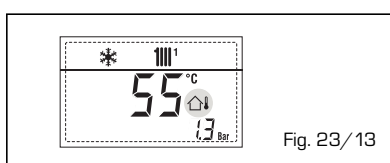

Fig. 23/13
**- INTERVENTO TERMOSTATO SICUREZZA PRIMA ZONA MISCELATA "ALL 20" (fig. 23/14)**